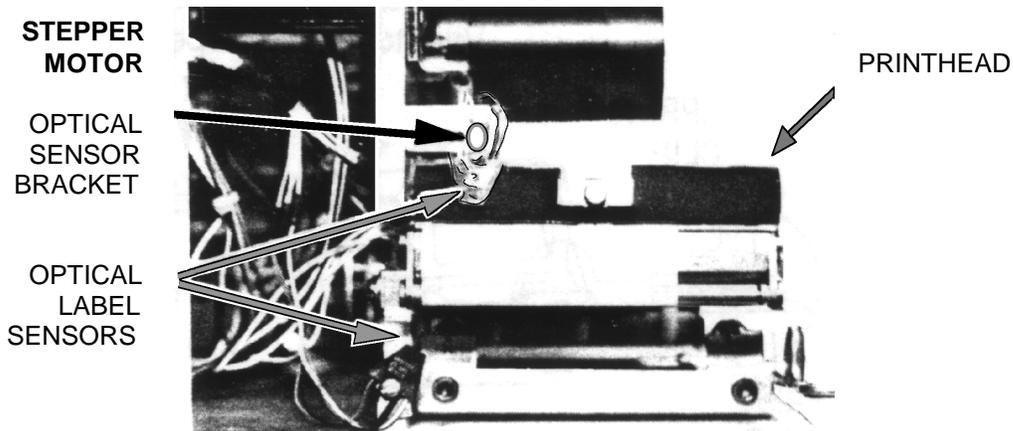

FIGURE 8
- c. Remove optical sensor bracket (upper) leaving sensor attached. (Figure 8)